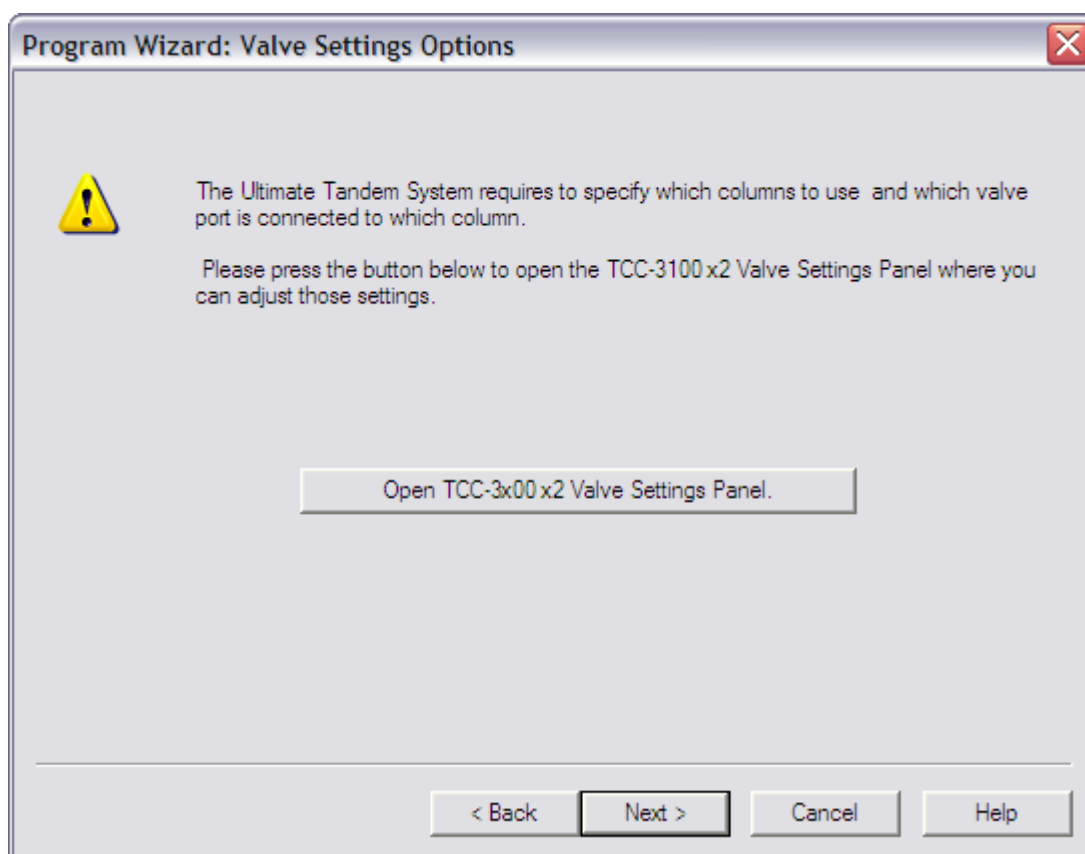
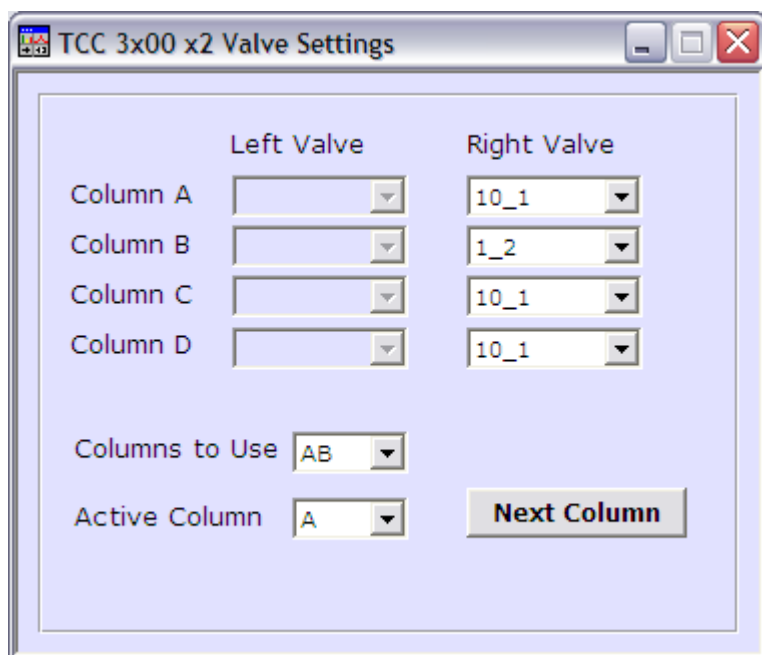

FIGURE 5-10: Program wizard – Valve Settings Options.
FIGURE 5-11: Program wizard – panel for the valve settings
10. After specifying the detection settings the valve settings are determined in the last step of the wizard. (FIGURE 5-10). Click the **Open TCC-3x00 x2 Valve Settings Panel** button to open a small dialog window with the option to set the valve position and columns for Tandem LC (FIGURE 5-11). The same settings as used in the panel (FIGURE 5-4) can be applied here. The active column is column A with the valve position 10_1. The analytical and reconditioning pumps are already set with the wizard in the **Tandem Pump Options** step of the wizard (FIGURE 5-7)